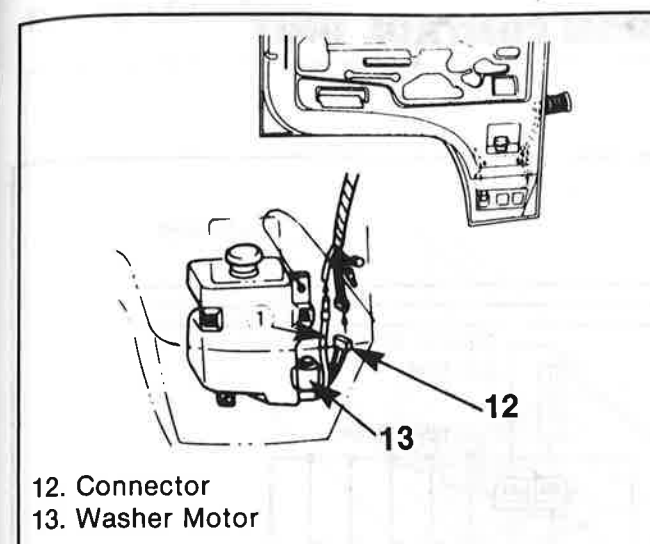

Figure 158. Washer Tank Removal (2)
- Disconnect the washer tube (figure 158).
- Disconnect the connector (12).
- Remove the washer tank motor (13).